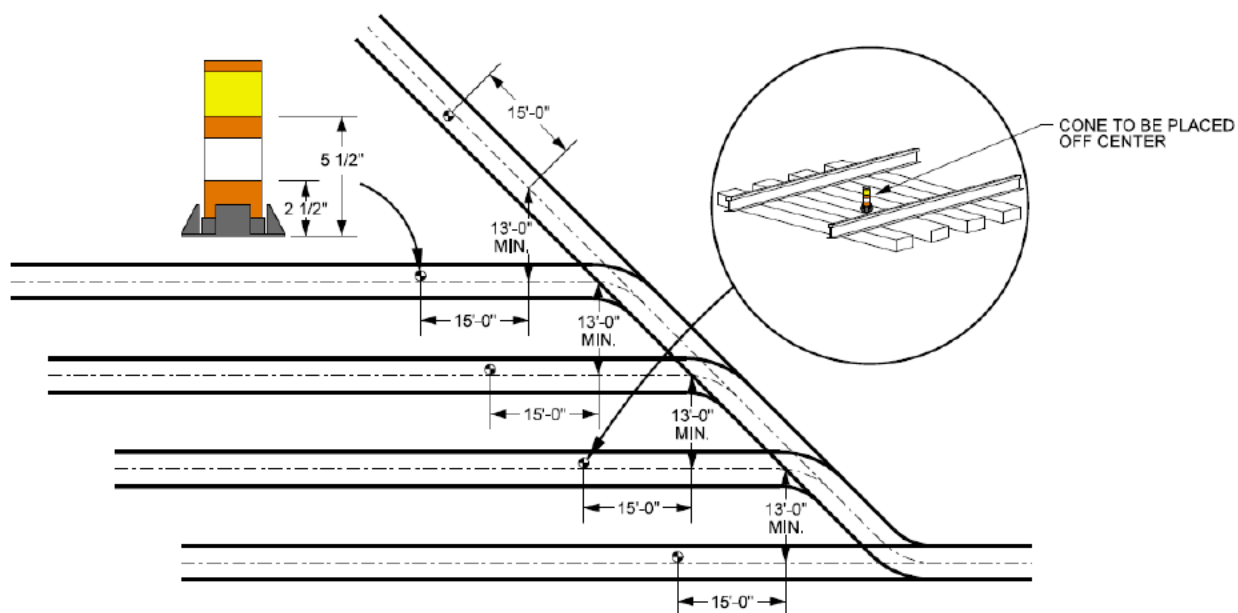

Figure 5.9-A
1. Ensure the clearance point on auxiliary and yard lead tracks are clearly marked with cone. See Figure 5.9-A. See Standard Drawing No. 0026 for more details.